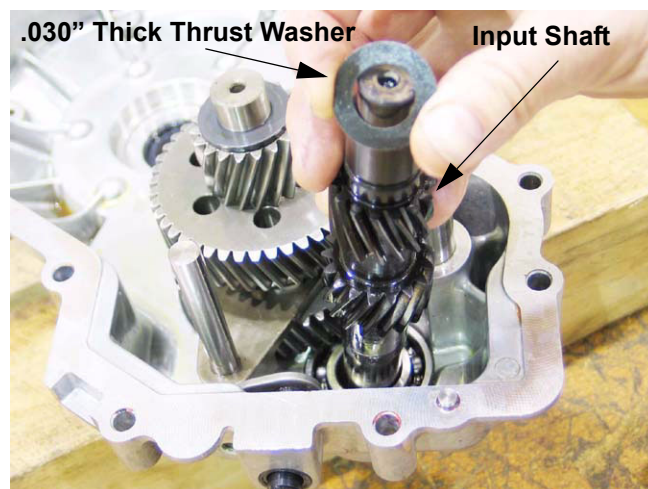

Figure 12.4
- 12.4. Lift the input shaft and thin thrust washer (.030" thick) from the housing. See Figure 12.4.